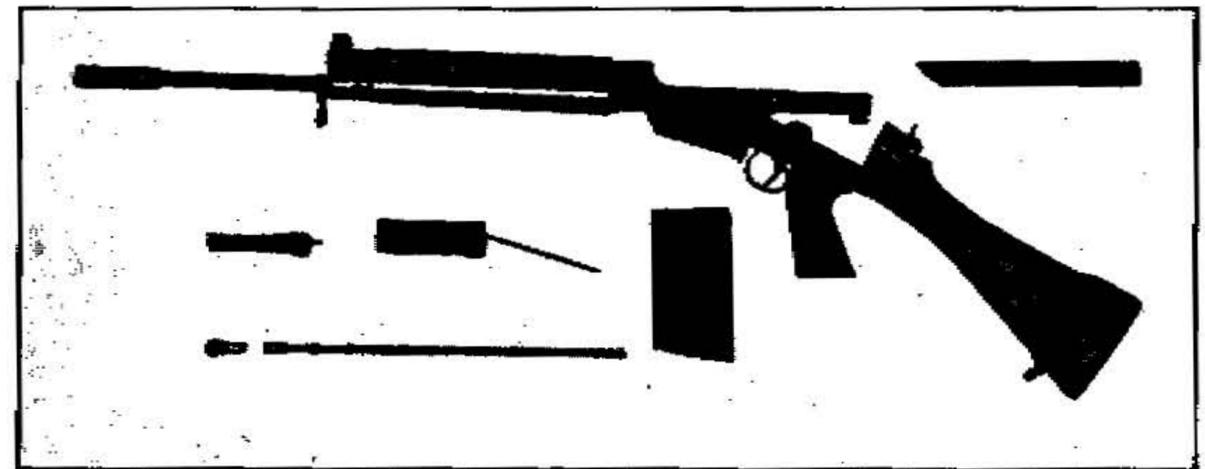

Fig. 3
9. **Stripping and assembly.** — Stripping and assembly for normal cleaning and maintenance can be done without using tools. For the usual cleaning, it is sufficient to take out the magazine, gas plug and piston and the breech block assembly, after removing the top cover (fig. 3). The breech block assembly and the cover can be removed very easily. The weapon opens like a shot-gun, i.e. the butt is hinged to the body and the rifle swings open to give access to the mechanism. The return springs, encased in the butt, do not require maintenance and should never be touched by the user.